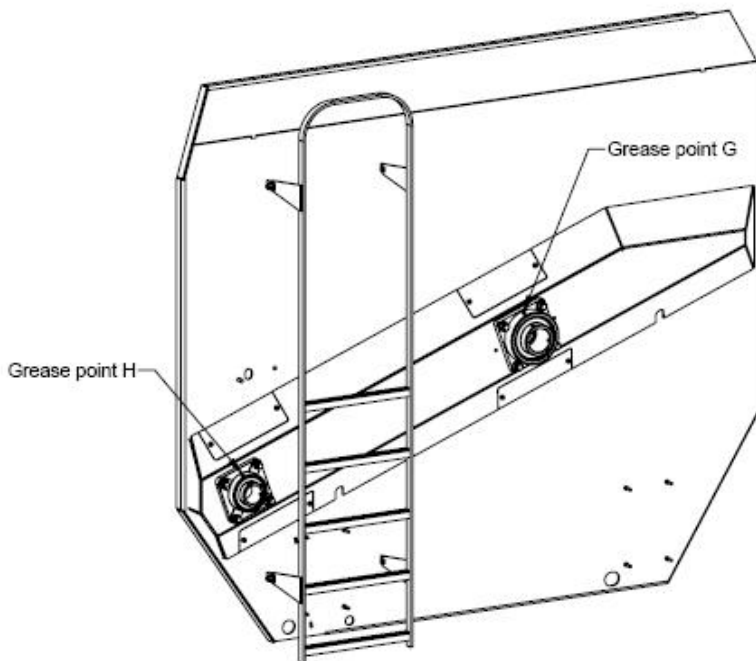

Figure 10. Rear grease points
- e. The two main bearings at the rear of the Keenan 160 (G & H figure 10)